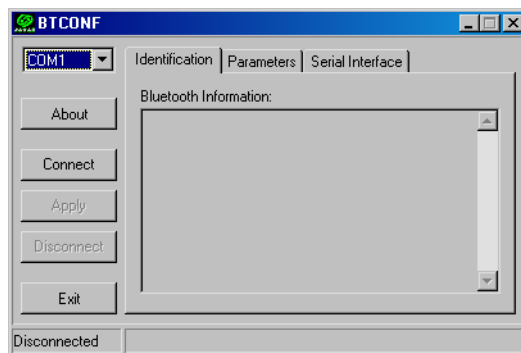

Figure 2-30. Bluetooth® Module Configuration Main Screen
3. Run the Bluetooth® module configuration program (Btconf.exe) (Figure 2-30).